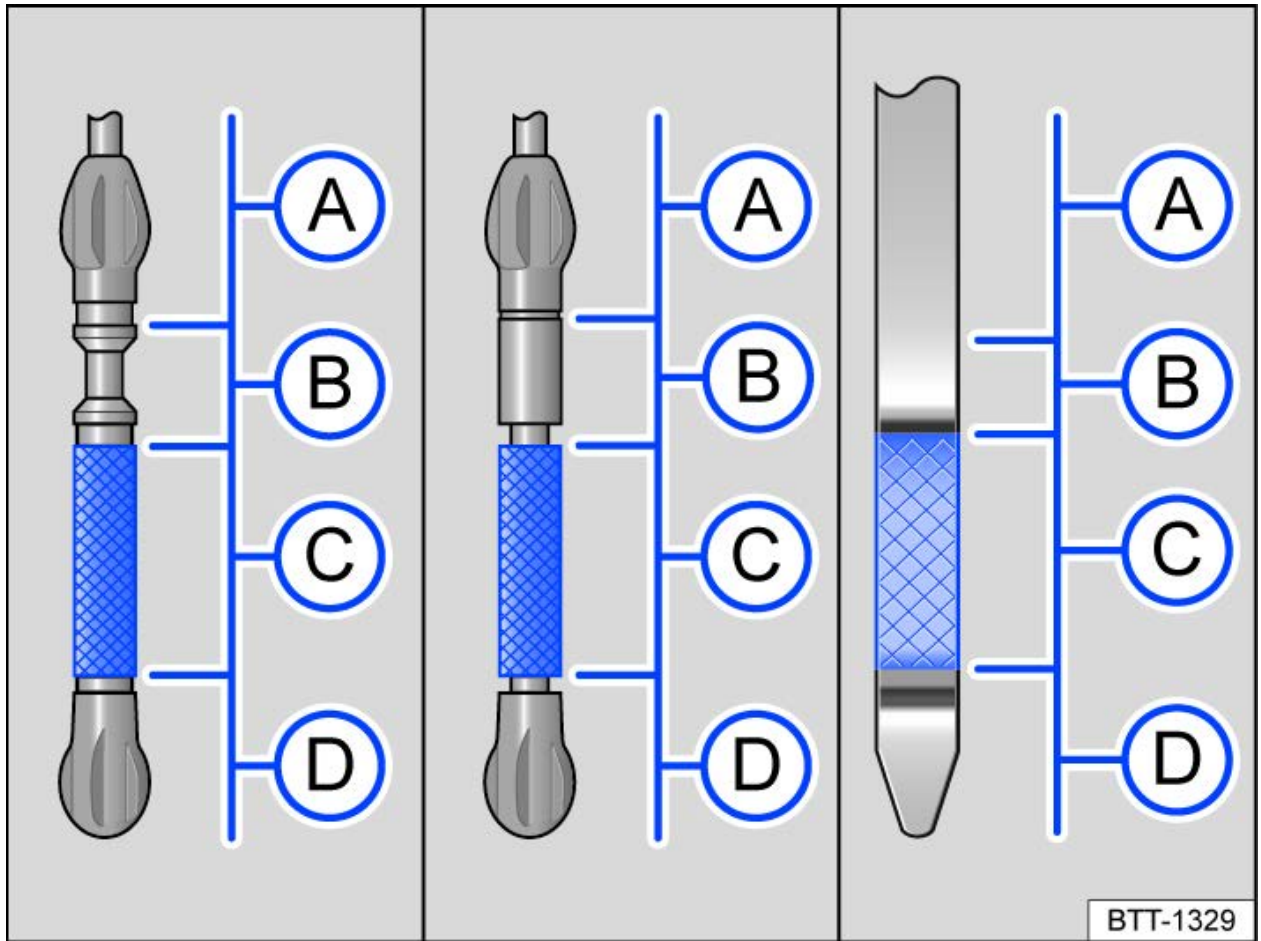

Fig. 1 Engine oil level markings on the oil dipstick (versions).
- Remove the dipstick again and read the oil level on the dipstick as described below → *fig. 1* :